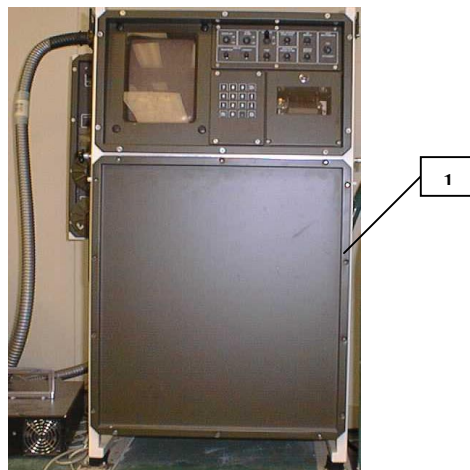

Fig.5 MM1 from front
(2) Unscrew the fastening screws of the front panel (Fig. 5 No.1) with an allen key (size: 3mm) and remove front panel.